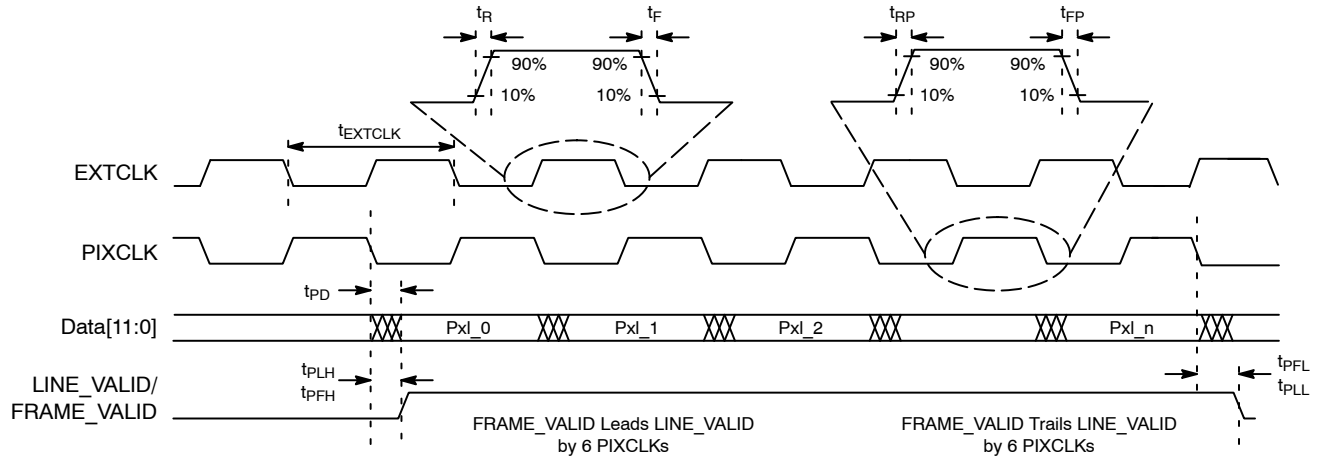

Figure 13. I/O Timing Diagram
See Figure 13 below and Table 7 on page 18 for I/O timing (AC) characteristics.